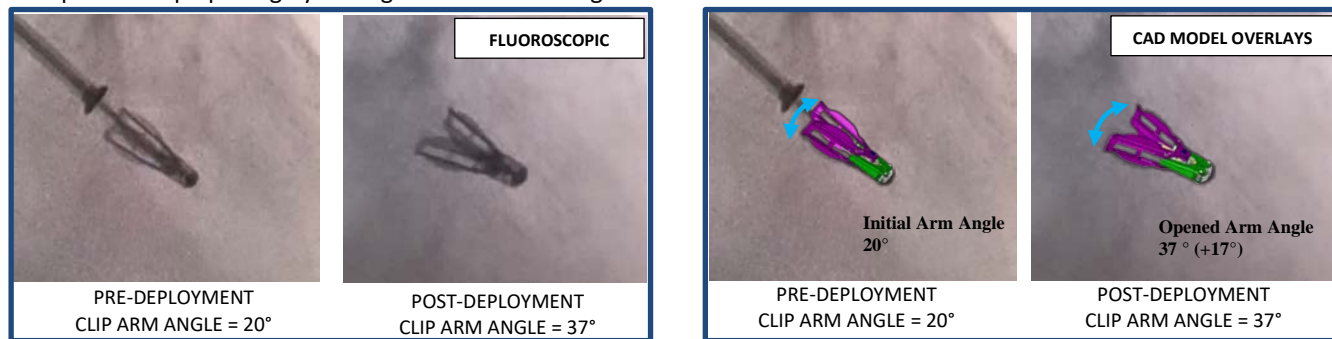

Figure 1: Fluoroscopic imaging of a Clip opening while locked (COWL) at deployment (left) with CAD model overlay super-imposed (right)
- COWL describes when the Clip Arm angle increases post-deployment. In these cases, users observe a slippage in the lock, resulting in an Arm angle greater than 10 degrees from the angle observed at deployment. This change in arm angle after deployment can be identified through fluoroscopy (see example in Appendix A, Figure 1).
An example of a Clip opening by 17 degrees is shown in Figure 1.